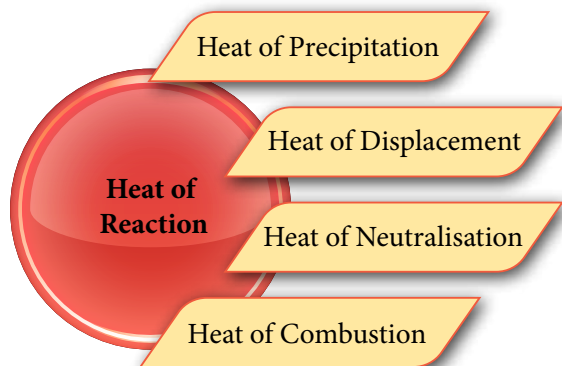

Figure 3.4 Types of heat of reactions
- The thermochemical equation below shows the formation of lead(II) sulphate, $PbSO_4$.
- The heat of reaction is normally named according to the types of reactions that occur. Figure 3.4 shows the types of heat of reaction.